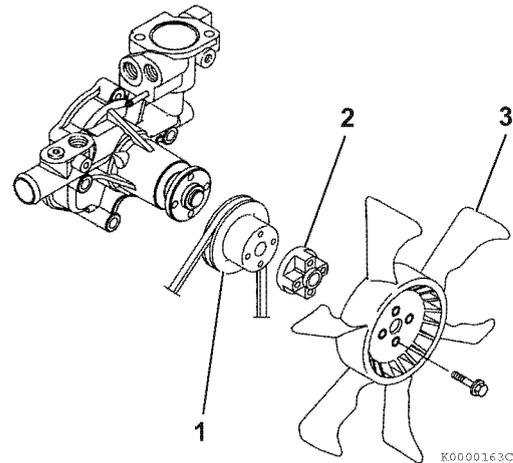

Figure 9-20
5. Reinstall the engine coolant pump V-pulley (1, **Figure 9-20**), spacer (2, **Figure 9-20**), engine cooling fan (3, **Figure 9-20**) and engine cooling fan guard (if equipped).